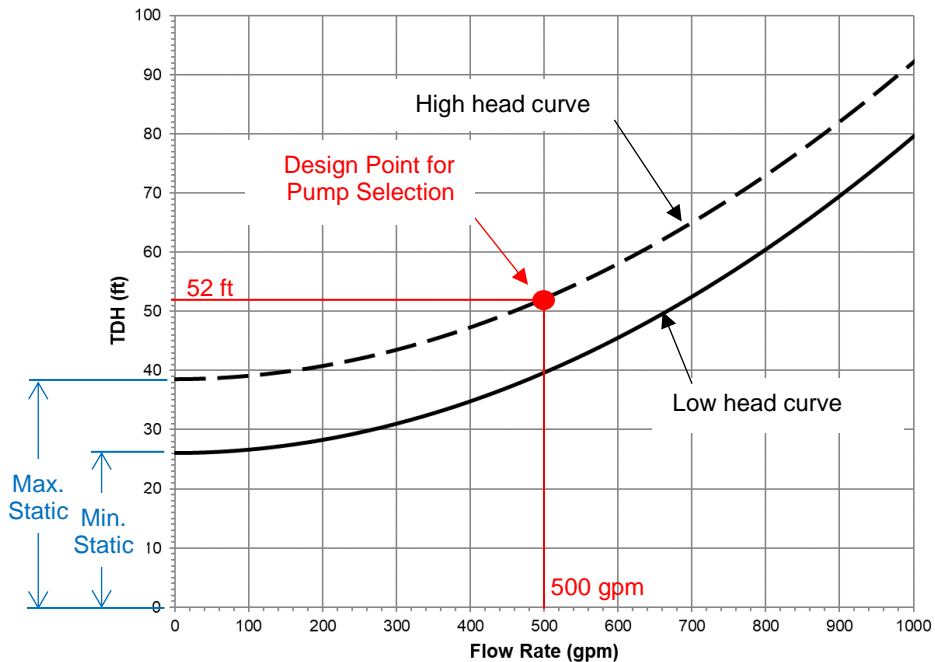

Figure 15: System curves with the operating point in red.
4. Plot the TDH versus Flow for the two conditions. See Figure 15 for an example.